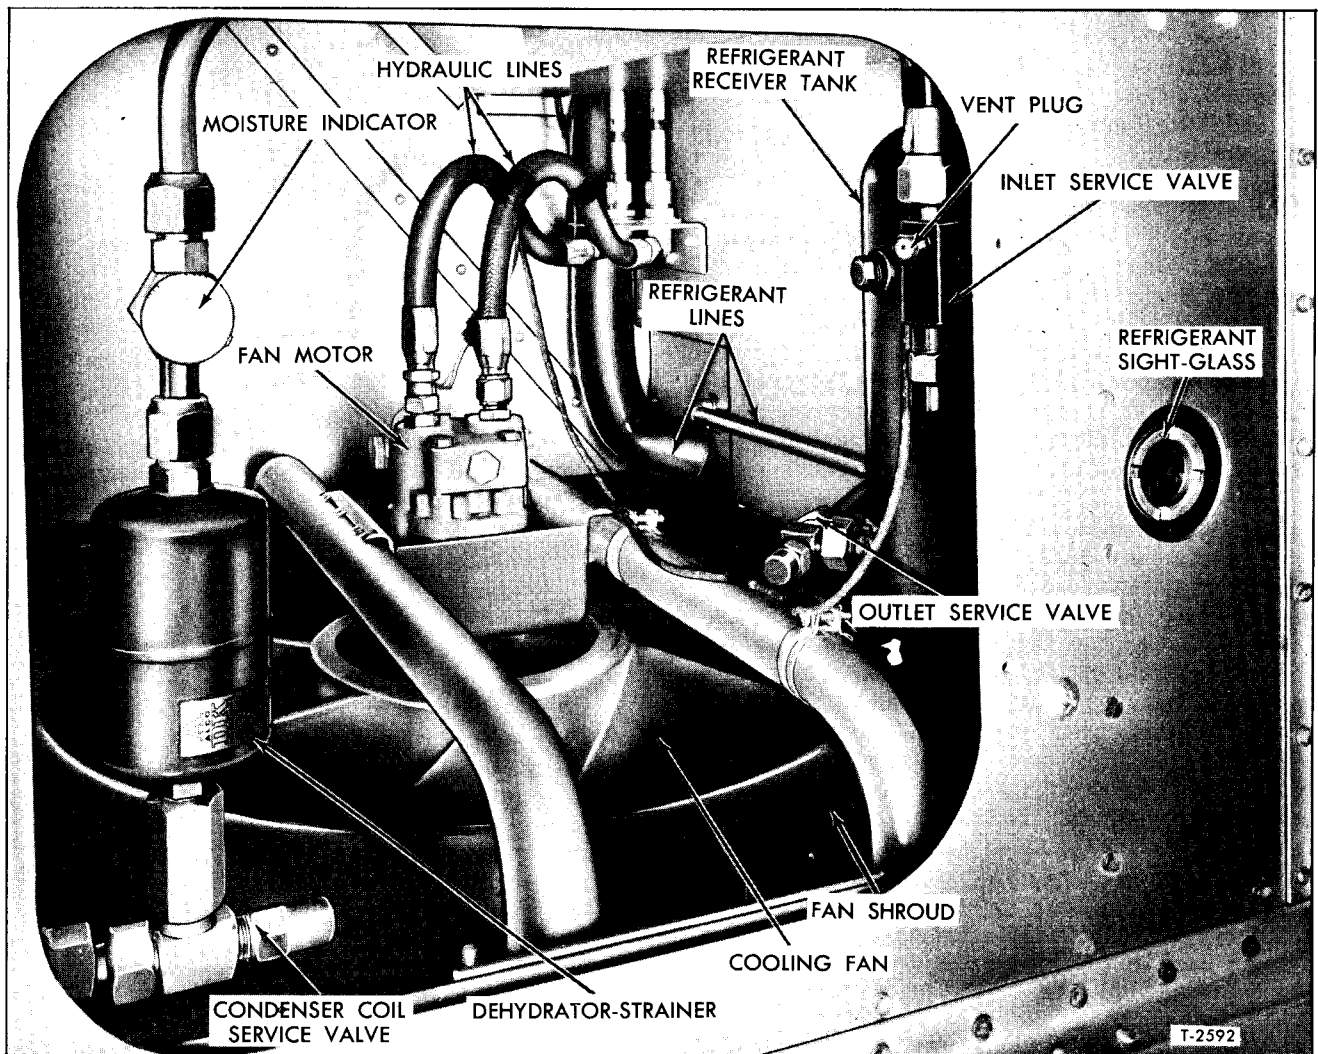
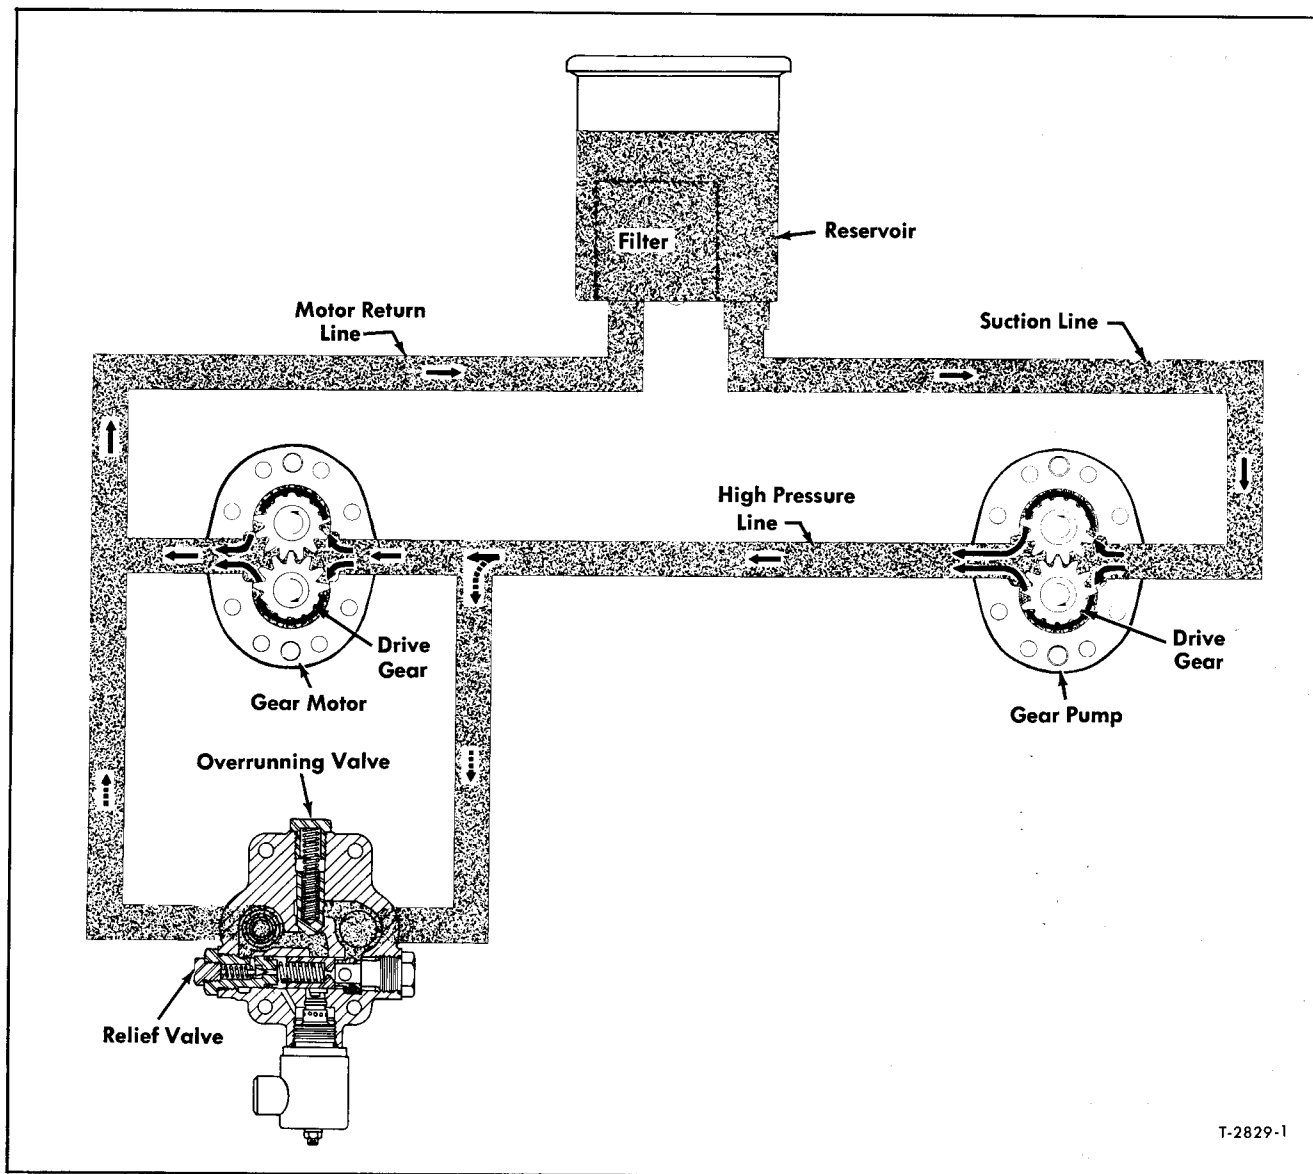

Figure 13—Condenser Compartment Viewed Through Bulkhead
Figure 15—Schematic Diagram of Condenser Fan Fluid System
Condenser compartment is located on the left side of the coach, forward of the forward baggage compartment. Compartment contains the condenser coil, filter screen, condenser cooling fan, fan motor, dehydrator-strainer, moisture indicator, and refrigerant receiver tank. Figures 13 and 14 show components of compartment.
Condenser cooling fan is hydraulically driven by a fluid motor and pump. Pump is mounted on engine and connected to fan motor with two fluid lines. Figure 15 schematically shows locations of system units and lines. Location of fan and motor is shown in figure 13.
Referring to figure 15, the valve block assembly containing the relief valve and over-running valve is actually an integral part of gear motor. The relief valve is set at 2000 psi and limits the maximum pressure. The over-running valve is normally closed and comes into operation when the engine is decelerated and the fan tends to over-run. At this time the over-running valve opens and short circuits the oil passage to keep the motor from cavitating so long as the inertia load is still on the motor.
Referring to figure 15, the pump pulls oil from the reservoir through the suction line and discharges under pressure to the gear motor. The discharge from the gear motor runs back through the filter in the reservoir.
2. Connect hydraulic lines to motor as shown in figure 13. Tighten line connections firmly.